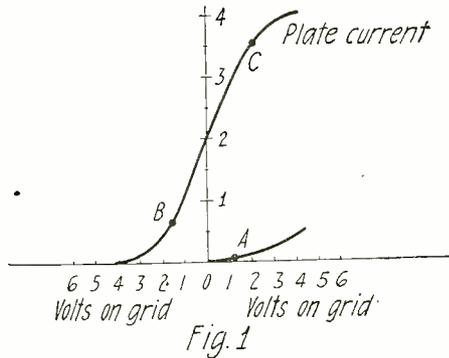

Fig. 1
There are two principal methods of detection employing the vacuum tube and these are: (1) plate circuit rectification and (2) grid circuit rectification. Both of these methods are based upon the shape which the characteristic curve of a vacuum tube has, namely on the curvature of the characteristic curve. Fig. 1 shows a typical characteristic curve of a three-element tube, which is obtained by applying different voltages to the grid and measuring the plate current corresponding to these voltages. It will be observed that at the beginning and end of the characteristic curve there is a
The second method of detection is the so-called "grid circuit rectification" method so named because we now deal with the current flowing from grid to filament, which current is rectified. In the characteristic curve of Fig. 1 it will be observed that there is a small curve on the positive side of the current axis. This curve is the grid current characteristic, that is, it shows how the current in the grid circuit varies with the grid voltage. It will be observed that for negative grid voltages there is no grid current, while for positive grid voltages there is a small grid current. Just as the plate rectification method depends upon the curvature of the plate current characteristic, the grid circuit rectification method depends upon the curvature of the grid current characteristic. However, the difference between the two methods is the following: